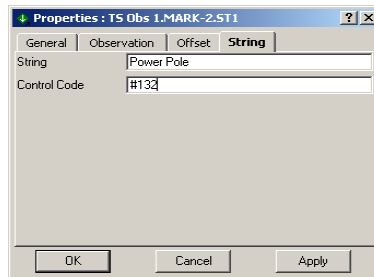

Figure 4-71. TS Properties – CAD Tab
2. On the **Properties** dialog box, click the *String* tab (Figure 4-71 on page 4-53). If the point code has been specified in the *Code* field, the fields *String* and *Control Code* will be enabled for editing.